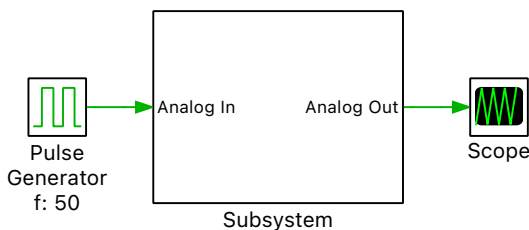

Figure 8: Subsystem showing ports created by the Analog In and Analog Out components
- 2 Add an additional scope on the top-level schematic connected to the Analog Out port. Add a Pulse Generator with a 50 Hz frequency. Connect the Pulse Generator output to the Analog In port. You can leave all other parameters at their defaults. Your top-level schematic should look like Figure 8.